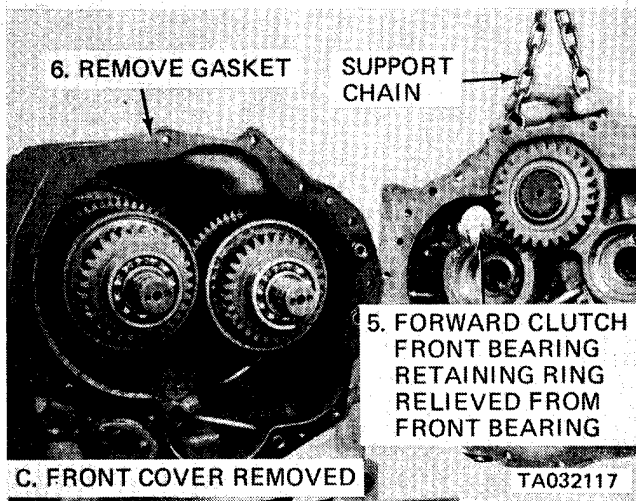

Figure 4-34. Front cover, removal and installation.
(12) Install retaining ring (2) and seal rings (1) on end of shaft.
(13) Install front bearing retaining ring (4) in front cover housing (fig. 4-34, C).
(35) Install forward clutch front bearing retaining ring in rear of front cover (fig. 4-34, C).
(36) Install new gasket on face of transmission case and install front cover in reverse of instructions in figure 4-34. Tighten capscrews to 39 lb-ft torque.
Retaining ring ears (fig. 4-34), must be spread completely when installing front cover, then released to engage groove in front bearing of forward and second clutch.